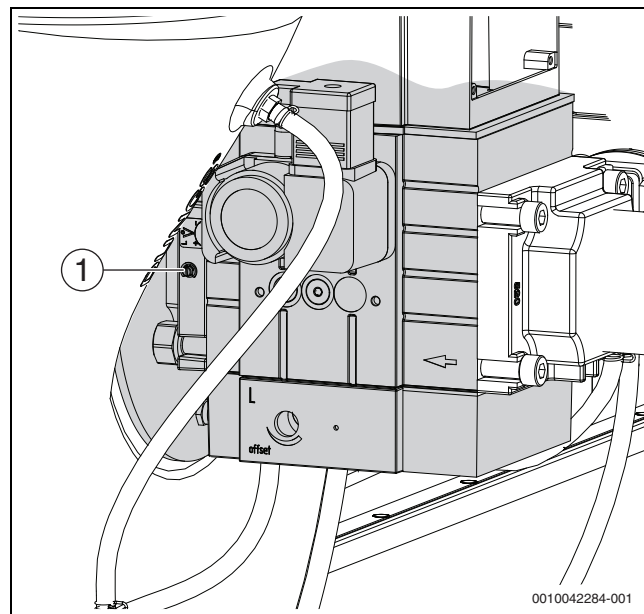

Fig. 38 Carry out an O2 adjustment at full load
- ▶ In the case of O2 values below 4.3% or above 5.0 % correct 5.7 % the setting on the high full load screw to (→ Fig. 38).